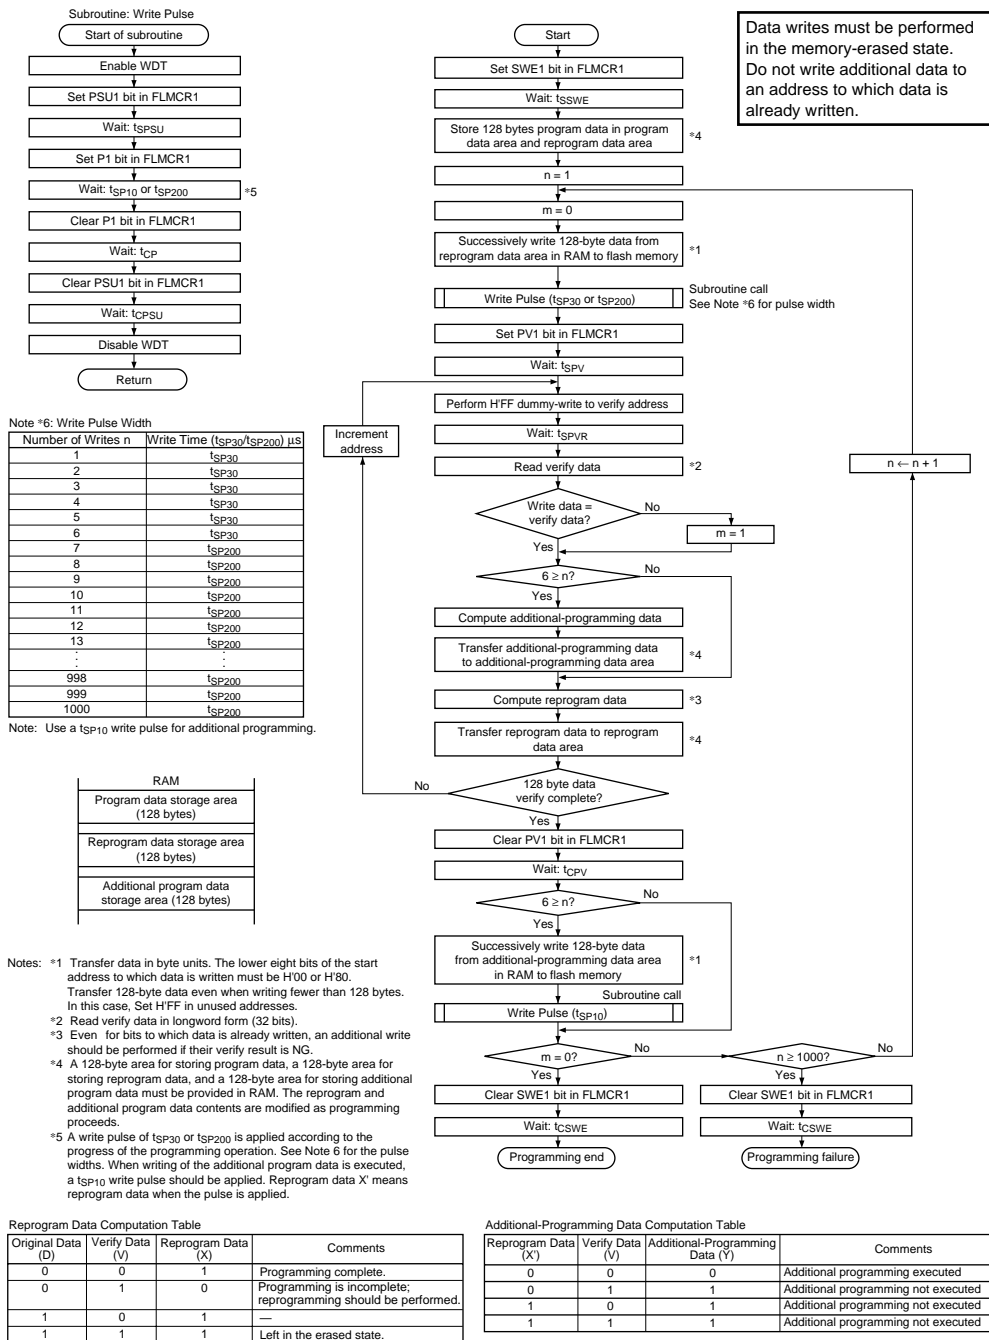

Figure 15-14 Program/Program-Verify Flowchart
After the elapse of a given programming time, the programming mode is exited (the P1 bit in FLMCR1 is cleared, then the PSU1 bit is cleared at least t_{cp} μ s later). The watchdog timer is cleared after the elapse of t_{cpsu} μ s or more, and the operating mode is switched to program-verify mode by setting the PV1 bit in FLMCR1. Before reading in program-verify mode, a dummy write of H'FF data should be made to the addresses to be read. The dummy write should be executed after the elapse of t_{spv} μ s or more. When the flash memory is read in this state (verify data is read in 16-bit units), the data at the latched address is read. Wait at least t_{spvr} μ s after the dummy write before performing this read operation. Next, the originally written data is compared with the verify data, and reprogram data is computed (see figure 15-14) and transferred to the reprogram data area. After 128 bytes of data have been verified, exit program-verify mode, wait for at least t_{cpv} μ s, then clear the SWE1 bit in FLMCR1 to 0. If reprogramming is necessary, set program mode again, and repeat the program/program-verify sequence as before. However, ensure that the program/program-verify sequence is not repeated more than (N) times on the same bits.